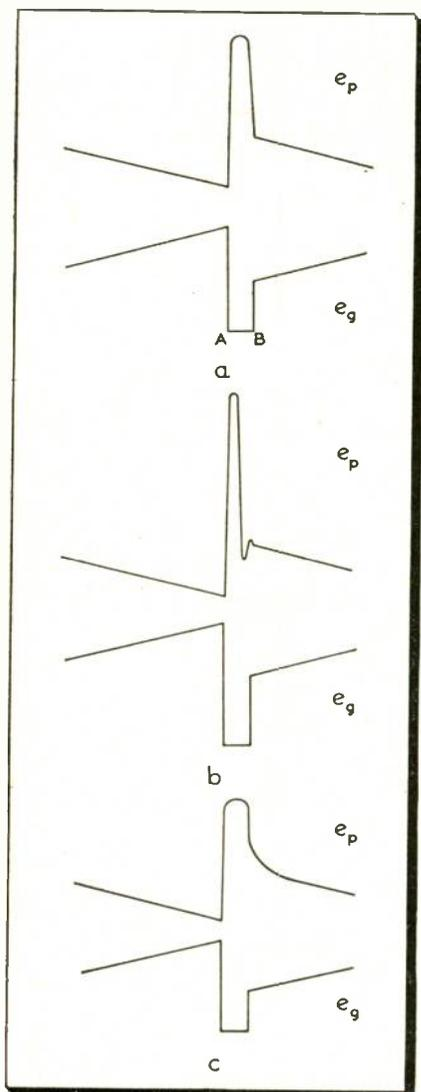

Fig. 1—Vertical output tube voltages. A—Correct peaking; B—Too much; C—Too little.
• A number of troubles in vertical peaking circuits can be quickly localized by raster and waveform checks. Idealized waveforms shown in Fig. 1 illustrate conditions of correct and incorrect peaking. In Fig. 2,
actual waveform voltages that appear at the plate of a vertical amplifier under the conditions cited in Fig. 1 are shown. The appearance of the raster in each case is illustrated in Fig. 3.